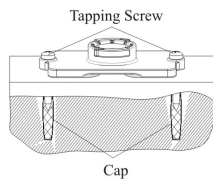

Figure 6
- c. According to direction on Figure 6, use the tapping screw in accessory bag to fix the base, then screw into the expansion cap.